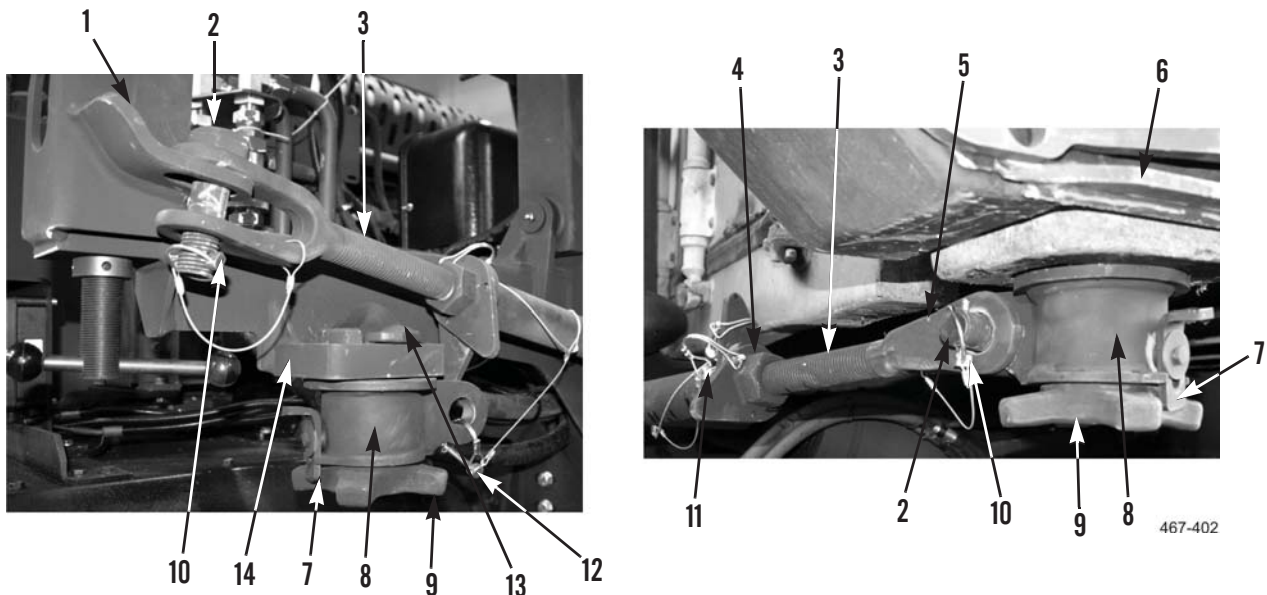

Figure 18. Release and Stow Transport Locks.
1. At front corner of container, remove clip (Figure 18, Item 10), bolt (Figure 18, Item 2), and transport lock arm (Figure 18, Item 3) from transport lock (Figure 18, Item 8).
2. If necessary, remove clip pin (Figure 18, Item 11) from adjustment lever (Figure 18, Item 4), loosen adjustment lever and adjust length of transport lock arm until clevis (Figure 18, Item 5) aligns with stowage bracket (Figure 18, Item 1).
3. Install clevis (Figure 18, Item 5), bolt (Figure 18, Item 2), and clip (Figure 18, Item 10) on stowage bracket (Figure 18, Item 1).
4. If loosened, tighten adjustment lever (Figure 18, Item 4) and install clip pin (Figure 18, Item 11).
5. Lift handwheel lock (Figure 18, Item 7) and loosen handwheel (Figure 18, Item 9) to full extension.
6. Rotate anvil (Figure 18, Item 13) and remove transport lock (Figure 18, Item 8) from container corner casting (Figure 18, Item 6).
7. Push transport lock (Figure 18, Item 8) upward into stowage bracket (Figure 18, Item 14) and rotate anvil (Figure 18, Item 12) until anvil shoulders are resting on stowage bracket.
8. Maintaining downward pressure on handwheel (Figure 18, Item 9), lift handwheel lock and tighten handwheel until transport lock (Figure 18, Item 8) is secure against stowage bracket.
9. Ensuring it passes between two finger grips on handwheel (Figure 18, Item 9), lower handwheel lock (Figure 18, Item 7).
10. Install clip (Figure 18, Item 12) on transport lock (Figure 18, Item 8).